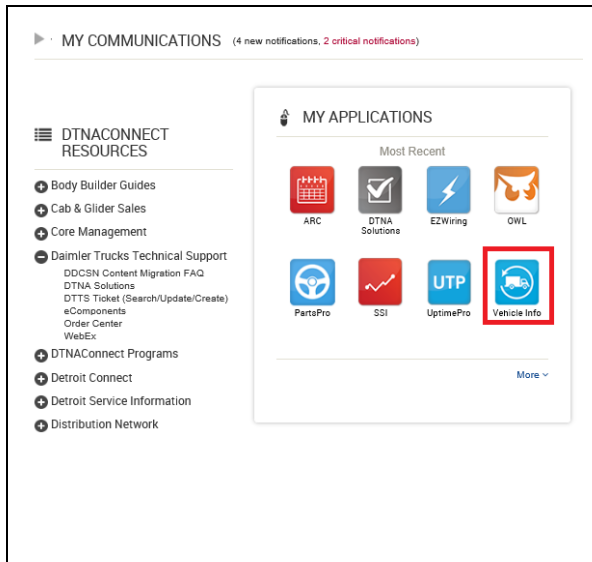

Fig. 3, DTNA Connect – Vehicle Info
2. Refer to Vehicle Info on DTNA Connect to **determine the vehicle build date**. See Figures 3 and 4.